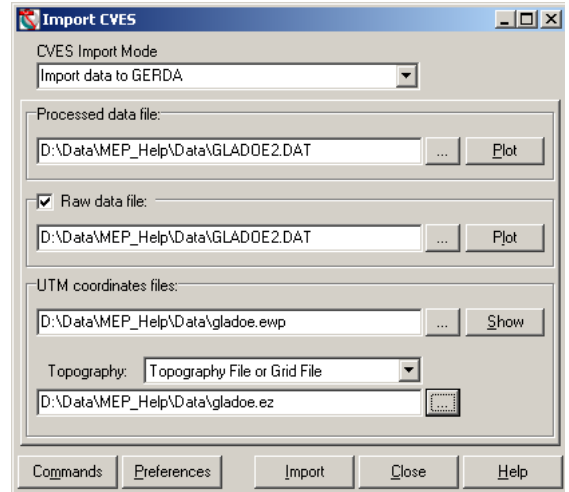

Figure 2.1 The import of CVES data is done using the Import CVES form with CVES import Mode set to Import data to GERDA
The CVES importer is accessible via the **File/Import** menu. This opens the **Import CVES** window (see Figure 2.1,
1. Set CVES Import Mode to **Import data to GERDA**, as seen in Figure 2.1.